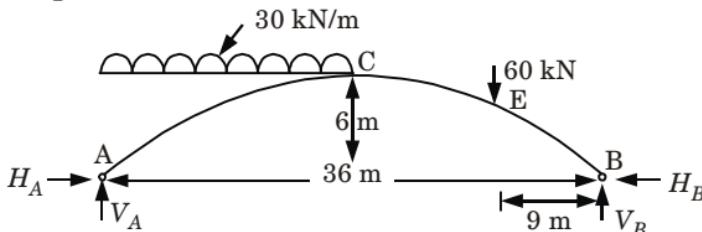

Fig. 5.16.1.
**Que 5.16.** A three hinged parabolic arch is shown in Fig. 5.16.1.